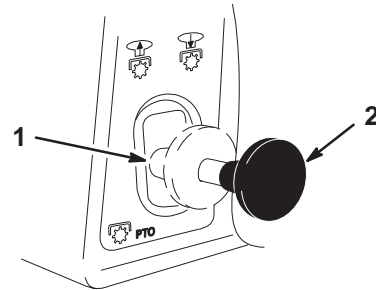

Figure 26
2. Pull the power take off (PTO) to the **on** position (Fig. 26).
1. Push the power take off (PTO) to the **off** position (Fig. 26).